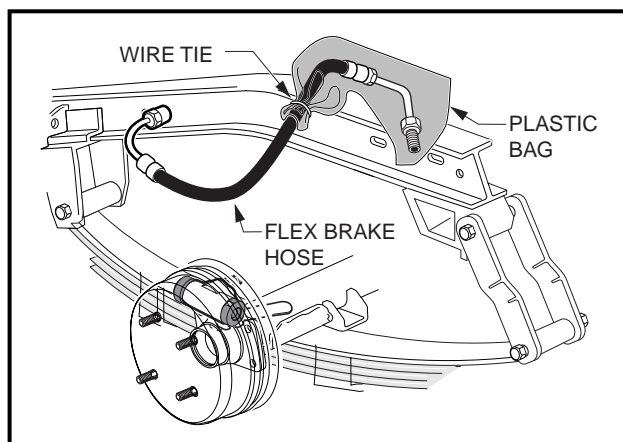

Figure 6-17 Rear Brake Hose With Plastic Bag
5. To ensure that no debris enters the hydraulic system, place the hose fitting in a plastic bag and secure to the vehicle frame as shown (**Figure 6-17, Page 6-18**).